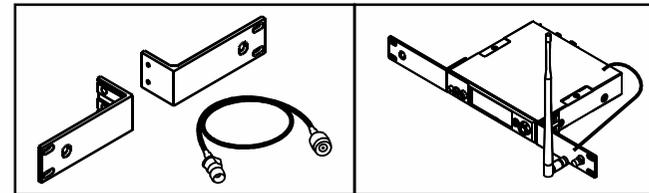

Fig. 3
2. Front Antenna Installation, Fig. 3: